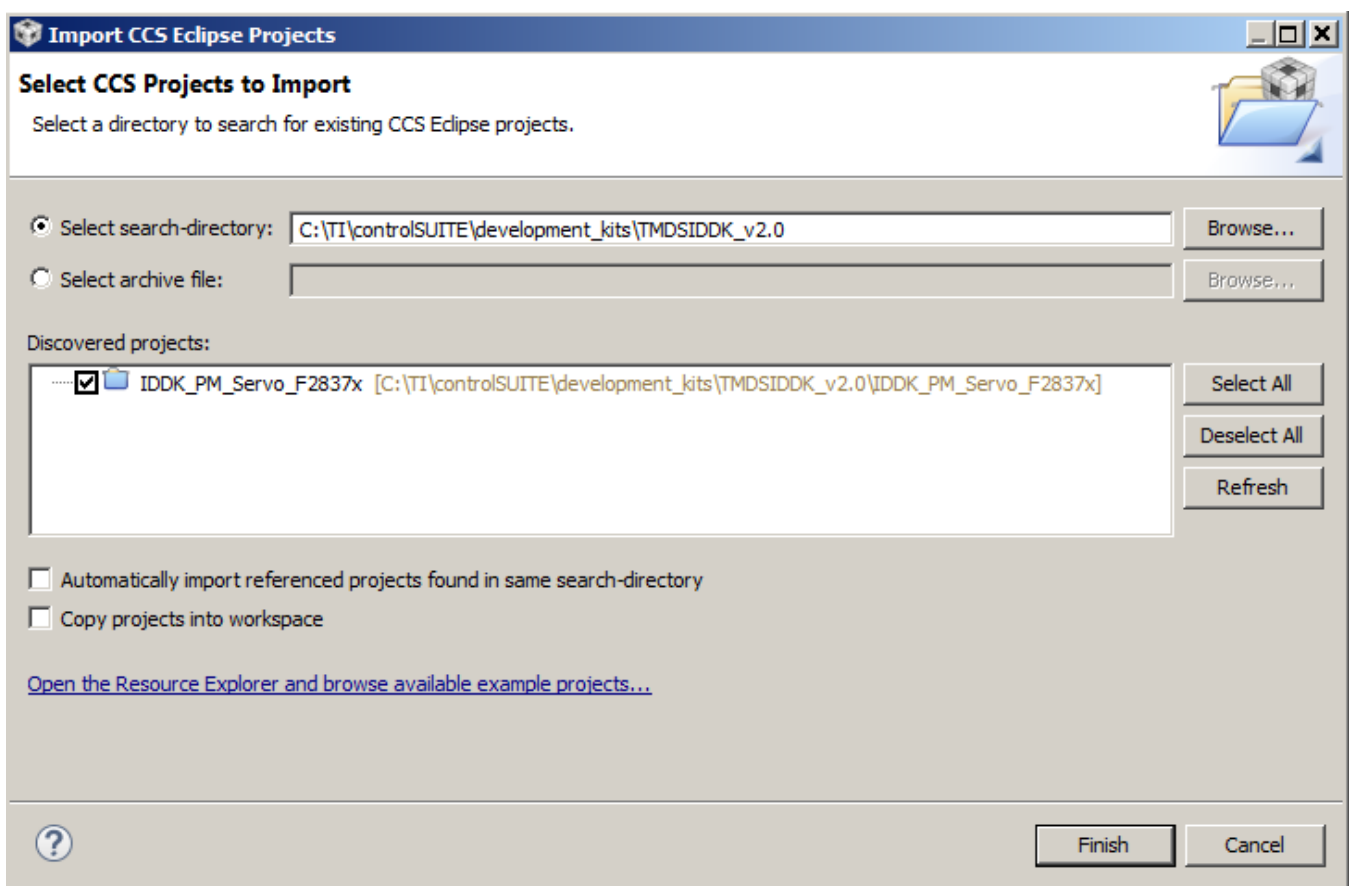

Figure 4-3. Adding an IDDK Project to Workspace
30. To select the IDDK project, navigate to: C:\TI\controlSUITE\development_kits\TMDSIDDK_v2.0\IDDK_PM_Servo_F2837x (see Figure 4-3).
- (a) Click the projects to import. (Figure 4-3 shows one project in the directory.)